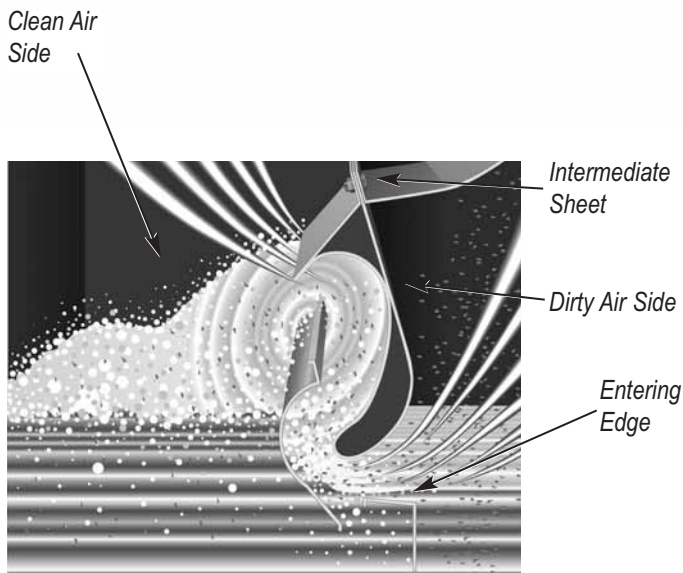

Figure 1. Cross section of Type N RotoClone® Impeller.
The Type N RotoClone cleans the air by the combined action of centrifugal force and a thorough intermixing of water and dust-laden air. The dust is separated from the air by means of a water curtain, created by the flow of air through a partially submerged stationary impeller (see Figure 1). Air flowing through the impeller at a high velocity conveys water with it in a very turbulent sheet. Additional water is introduced at the narrowest portion of the impeller opening through a specially designed slot at the bottom. Since there is a certain pressure drop through the impeller, the water flows upward through the slot in an attempt to reach the water level on the clean air side. The water flow upward through the slot creates increased interaction between the dust and water, thus, increased collection efficiency. Since the water flows upward in an attempt to reach the level on the clean air side of the impeller, the impeller opening can be decreased (resulting in higher pressure drop and collection efficiency) by raising the water level in the unit. This is accomplished by means of an exclusive and patented variable water level control box. The centrifugal force exerted by rapid changes in direction of flow causes the dust particles to penetrate the water film and become permanently trapped. (Figure 1).
Note: This level can be checked by filling the unit with water until the level reaches the entering edge (Figure 1) of the impeller. This entering edge should be level with the water along its entire length with maximum variation of ¼" plus or minus. (See Operating Instructions, Item A-2).
- b. Set collecting section in place so its bolting flange matches hopper flange. Lower carefully, watching for interference between intermediate sheets (lower section of curved entrainment baffles) and impellers. Walls of interior center section, formed by the two intermediate sheets must be inside impeller bolting surface (Figures 1 and 3).
- d. Bolt impellers to intermediate sheets. Before tightening, entering edge (Figure 1) of impellers must be in a straight line. Impellers were installed in the hopper section and aligned at the factory. Each impeller section is matched-drilled with holes in intermediate sheet. Pull these bolts tight and check alignment before tightening remainder of bolts through slotted holes in impellers and drilled holes in intermediate sheets.